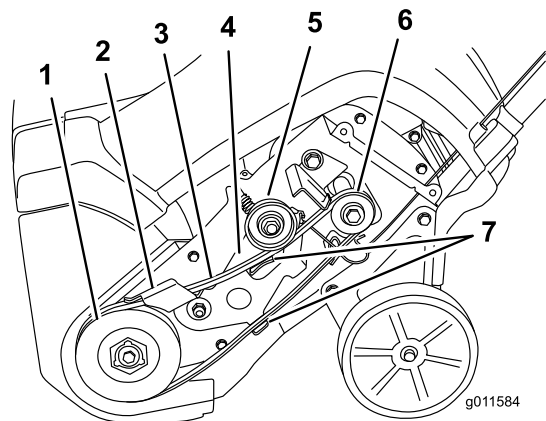

Figure 28
**Important:** Ensure that you install the drive belt so that it sits above the 2 tabs on the idler arm and below the idler-arm brake (Figure 28).